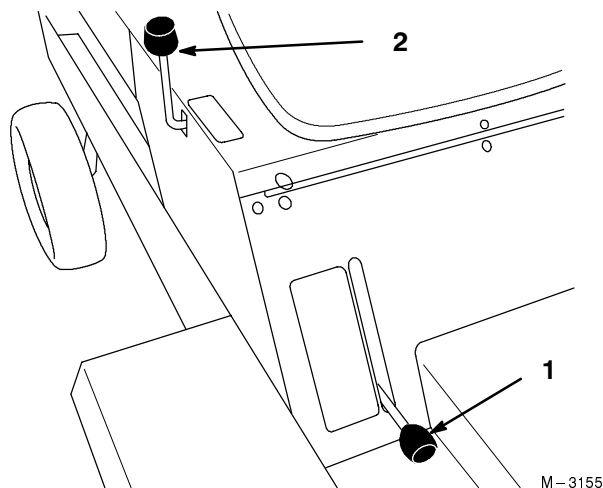

Figure 10
2. Lift the parking brake lever up to apply the parking brake (Fig. 10).
1. Move the parking brake lever down to the released the parking brake (Fig. 10).
The implement lift lever is used to raise and lower various attachments (Fig. 10).
3. Pull implement lift lever rearward to raise attachment to the desired height (Fig. 10).
3. Push implement lift lever forward to lower attachment (Fig. 10).